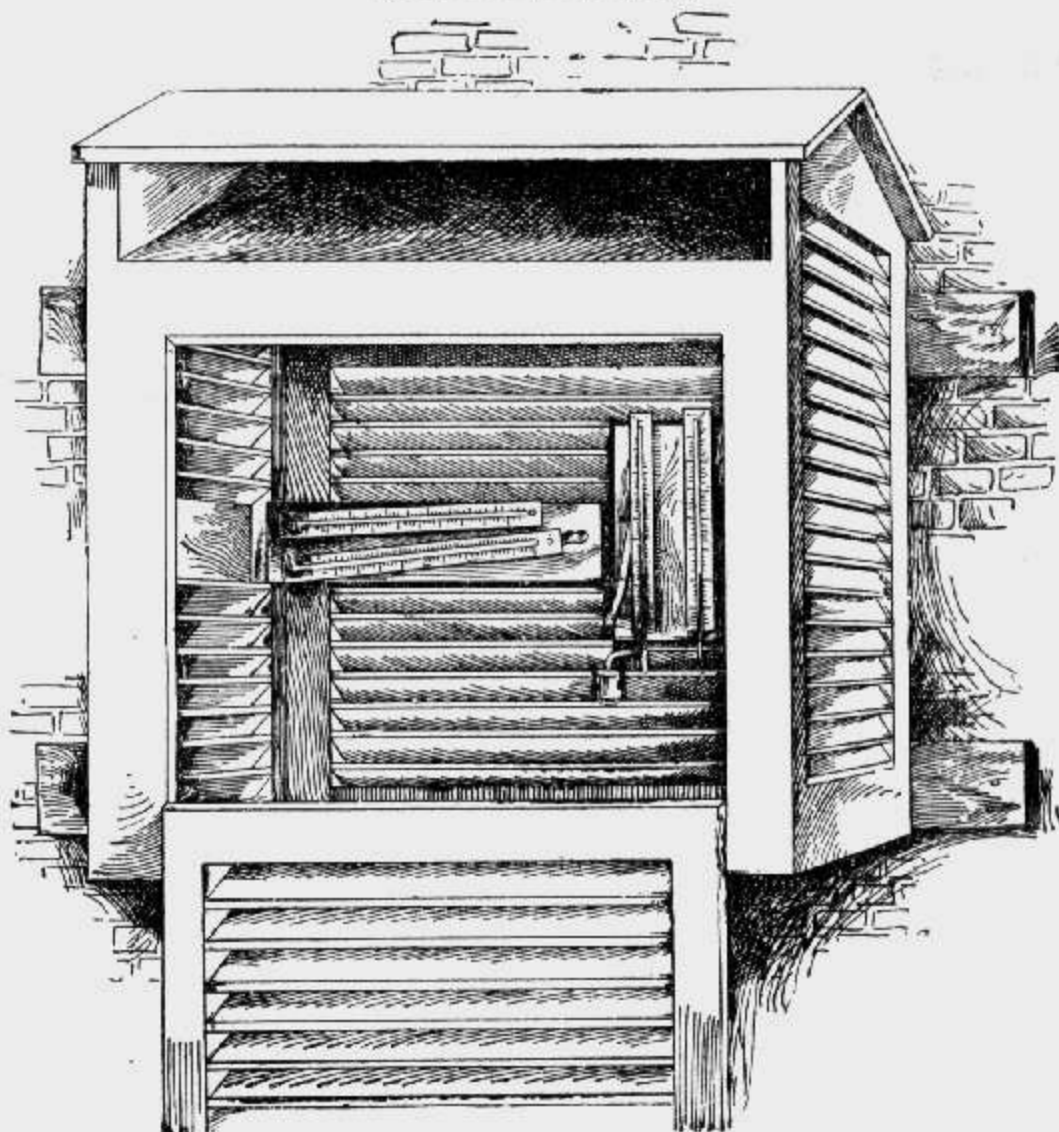

Fig. 31.
The latest pattern Weather Bureau Instrument Shelter (small size) is illustrated above, with door open and a complete set of thermometers in proper position. This shelter is sufficiently large to allow a good circulation of air, and will hold a thermograph (see page 25) in addition to the four thermometers shown. Wherever it is possible to do so this shelter should be placed on top of a suitable post, or posts, set in the ground very securely and sawed off square at the top for the shelter to rest upon, and so that the bottom of shelter will be *not less than 4 feet* from the ground, with *door on north side*. The shelter must be fastened rigidly to the top of the post, or posts, and for this purpose it may be necessary to attach boards or a rough frame, to which the shelter itself can be secured by suitable screws through bottom or ends. The best location for this shed, or ground, exposure for shelter, is near the center of the largest clear space available, and the location should, of course, be conveniently accessible for the observer. This manner of exposing the shelter gives much better results than that described below, as the instruments are not then so much affected by the close proximity of buildings, etc. When this exposure is not obtainable, however, the shelter will be attached to the side of a building, at such height that the thermometers, when in position, shall be on a level with the observer's eye, which will enable him to take accurate readings. Suitable wood screws are placed through frame at back, the wall or side of building being first prepared therefor by having two (2) pieces of 2 x 4 scantling securely nailed thereto, as indicated in the illustration (Fig. 31). It is necessary to have these pieces of scantling at least 2 inches thick, in order to allow a free air space all around the shelter.